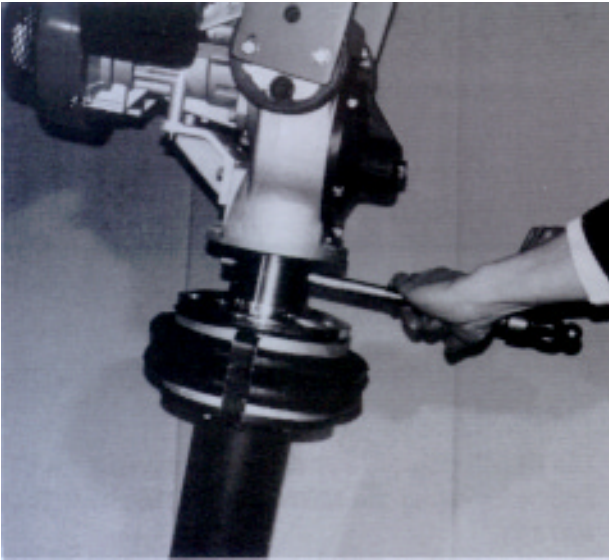

FIGURE 1
2. Push the Guide Tube (Fig 9, #3) down until it exposes the Ram Head and Piston Pin (Fig 7, #27). While holding the Gearbox, tap out the Piston Pin with a hammer and drift pin. The Gearbox may now be removed from the Lower System. See Figure 1.